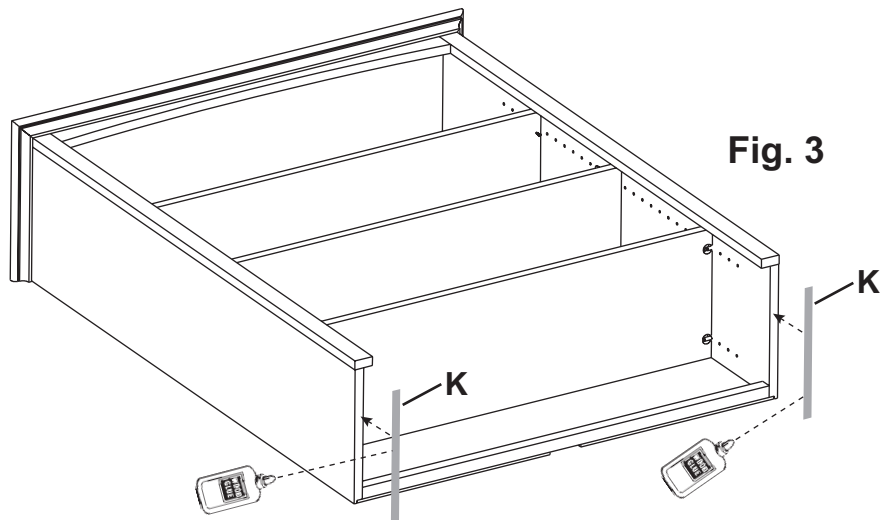

Fig. 3
- Place the Hutch face-up on a clean, protected surface. Spread a thin even thin film of glue on the non-fuzzy side of a Pad Strip (K) and place it on the bottom of the left side of the Case Assembly. Quickly wipe away any excess glue with a damp rag. Repeat for the right side. See Figure 3.